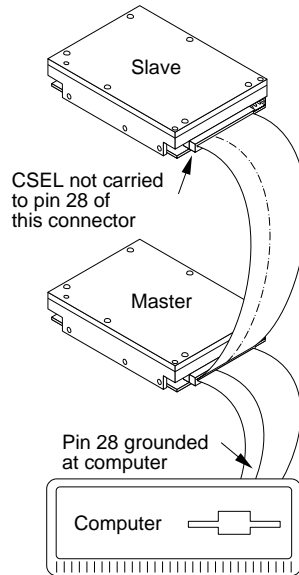

Figure 5. Connecting cable-selected drives
- Connect the drives to the cable as shown in Figure 5 on page 19.